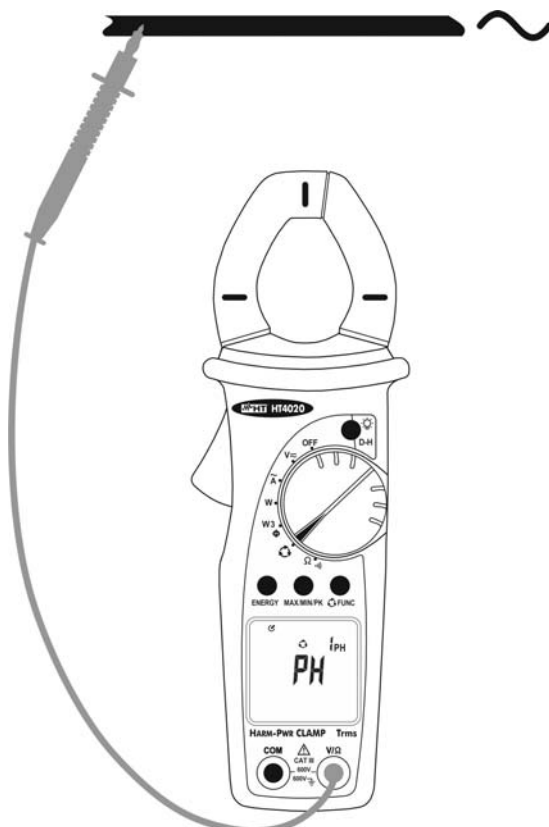

Fig. 15: Use of instrument for phase detection indication with 1 wire
3. Connect the red terminal to the L1 phase conductor (see Fig. 15). If necessary use the rubber cup to insert red test lead